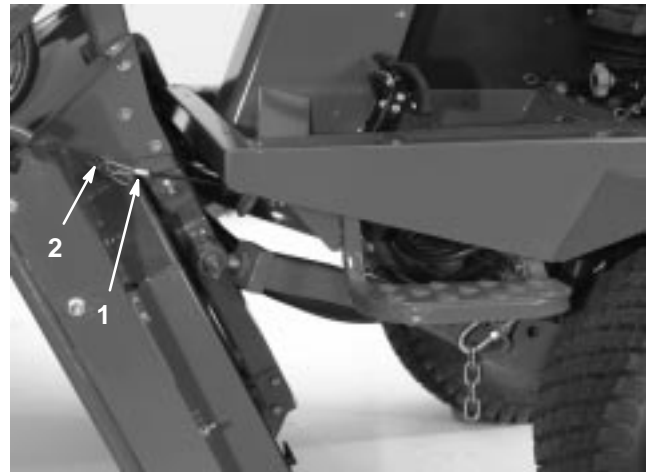

Figure 78
5. Hold the cutting unit upright, fit the cable end over the pin on the cutting unit lift arm and secure it with the hairpin cotter (Fig. 78).